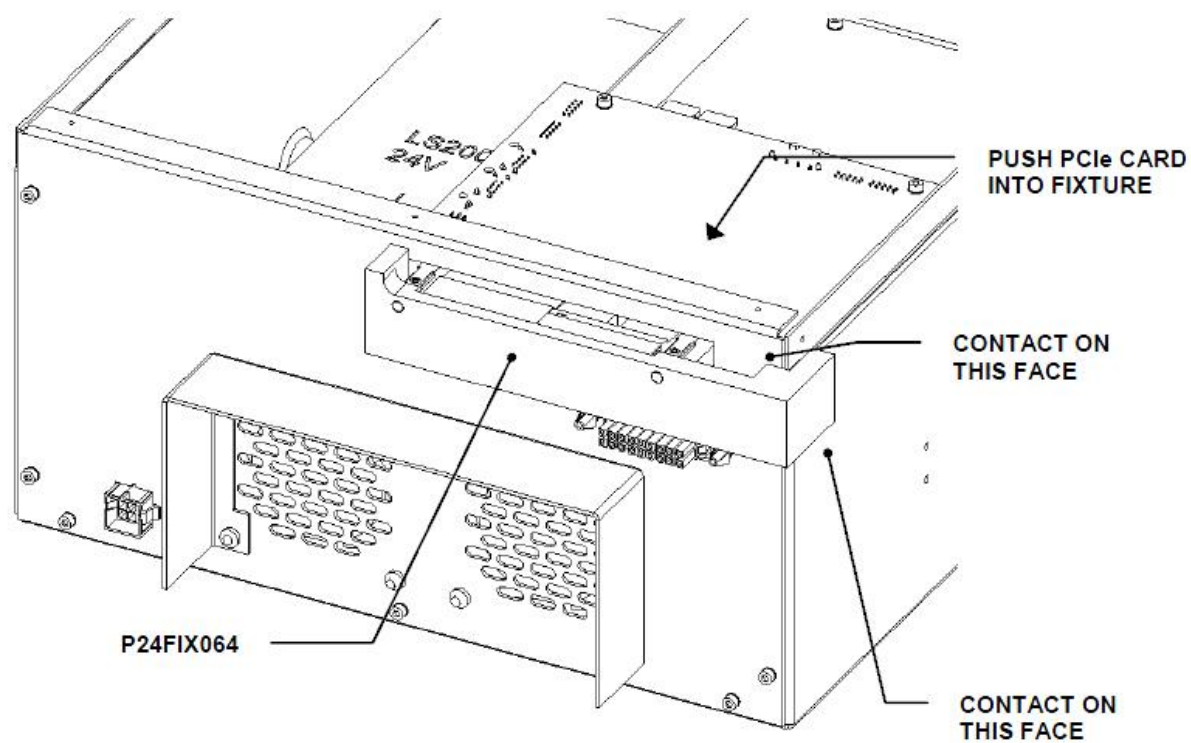

Figure E-5: Positioning the PCI Board
2. Place the fixture in contact with the rear left hand side of the electronics box as shown in Figure E-5. Push the PCI card back towards the fixture as far as it will go and lock the screws down in place.